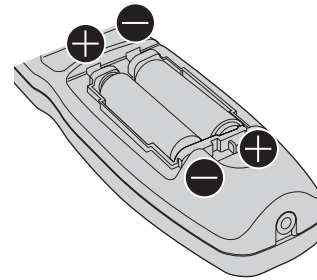

Fig. 2
- 2) Insert the batteries and close the cover (insert the $\ominus$ side first). (Fig. 2)